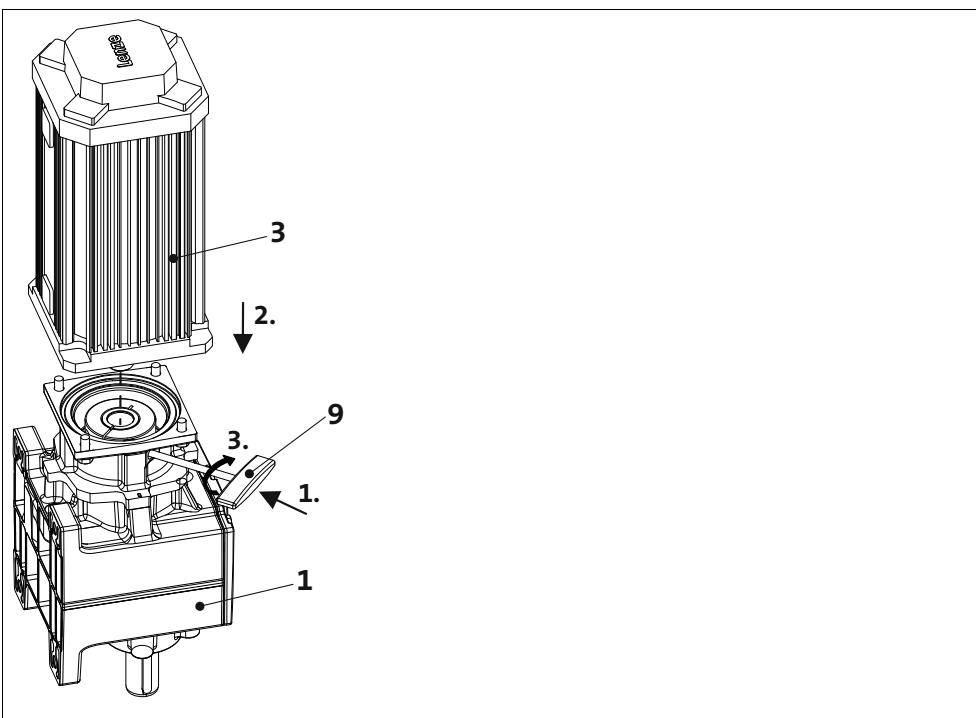

Fig. 7 Mounting of motor and gearbox
4. Afterwards, insert the wrench (9) into the terminal screw (8) of the clamping ring (7) and leave it there (Fig. 7). The terminal screw (8) must only be tightened to such a degree that the clamping ring (7) does not move but the shaft is not tightened yet!